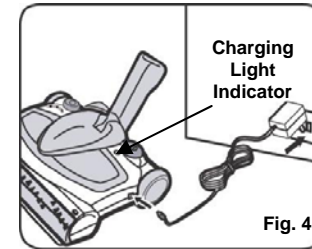

Fig. 3
3. To fold the handle, press on the handle release button firmly while bending the handle forward. The forward folding pivot will click into the bent position as shown in Figure 3.